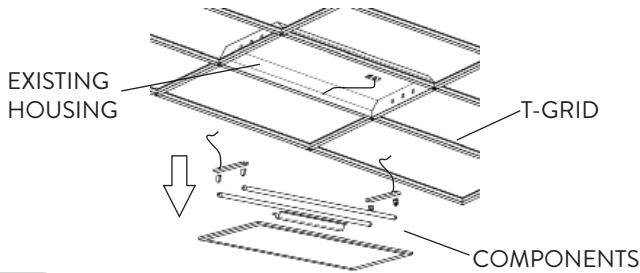

FIG. 3
- 1 Prior to installation, shut off the power to the existing fixture. Remove components from the existing fixture that includes the host fixture lamp(s), ballast cover, ballast, brackets, lamp holders and wiring. Leave supply and grounding leads (Fig. 3).